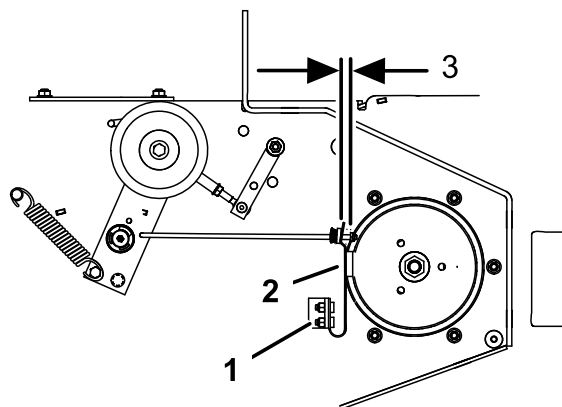

Figure 69
3. If necessary, adjust the spring mounting bolts so that the blade brake pad rubs against both sides of the pulley groove (Figure 69).
4. Adjust the nut at the end of the blade brake rod until there is 1/8-3/16 inch (3 mm -5 mm) between the nut and spacer (Figure 69).